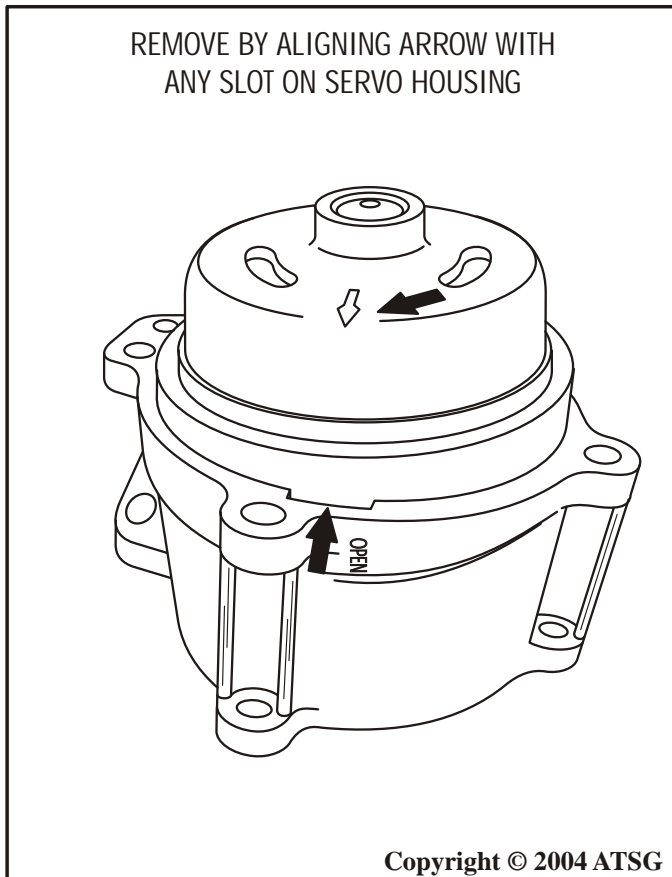

Figure 112
3. Remove reverse servo cover plate by turning in either direction to release. Align the arrow on the cover plate with any slot on the housing, as shown in Figure 112.